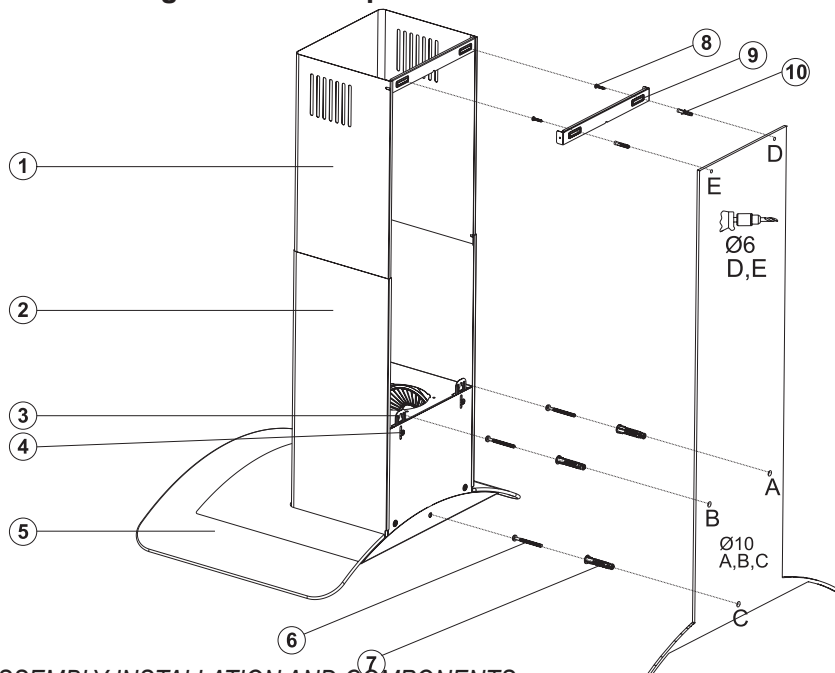

Fig. 10: ASSEMBLY INSTALLATION AND COMPONENTS
■ Loosening the product hanging plate fixing screw (4) pull the hanging plates (3) upwards, and fix the hanging plate by re-tightening the fixing screw. Fig 10
specified height (See the minimum and maximum distances intended for the worktop, in the assembly pattern). Perforate points A, B and C.(Fig. 10)
■ Insert Ø10mm dowels (7) into the holes drilled as A, B, C and D, and screw down the screws at the points A + B so that 5mm space remains between the screw head and the wall. (Fig. 10)
The cooker hood is set in the midst, and then the flue connecting plate (3) is directly affixed to the wall, under the cover or points E and F are marked after performing a measurement. (Page 16 Fig.10)
Drill points E and F with Ø6mm drill bit, and insert Ø6mm and plastic dowels. Insert the flue connection plate with 3.9x22 screws (Page 16 Fig.10)